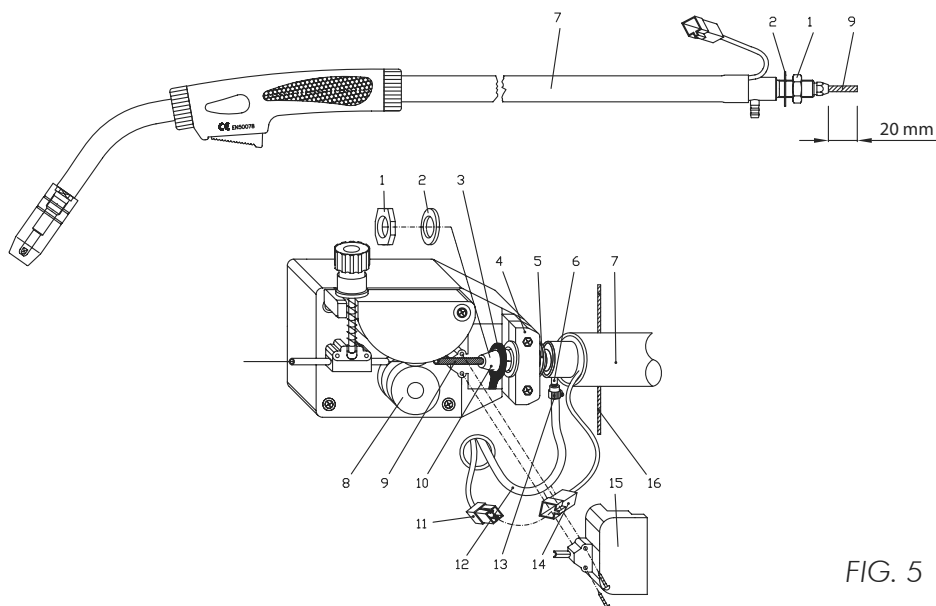

FIG. 5
4.3 TORCH LEAD ASSEMBLY – DIRECT CONNECTION (FIG. 5)
- Before fitting the torch hose assembly (7) on the machine remove the nut (1) and the washer (2). Then, measure the length of the liner from the brass nut (10). This measurement should be a maximum of 20mm, and should be carefully trimmed to this length using a good pair of side cutters, or similar, ensuring there are no burrs or sharp edges which may impede the progress of the wire when fitted.
- Carefully feed the hose assembly (7) through the hole in the front face of the welder, taking care to feed the electrical connector (14) through at the same time. Then connect them to the wire feeder. Then insert also the threaded terminal ring (3), the power cable terminal, the washer (2) and screw on the nut (1) tightly.
- Fit the plastic cover (15) over the bracket assembly (4) securing with the two self-tapping screws provided.
- Connect the gas hose (12) to the gas hose nipple (6) securing with the hose clamps supplied (13).